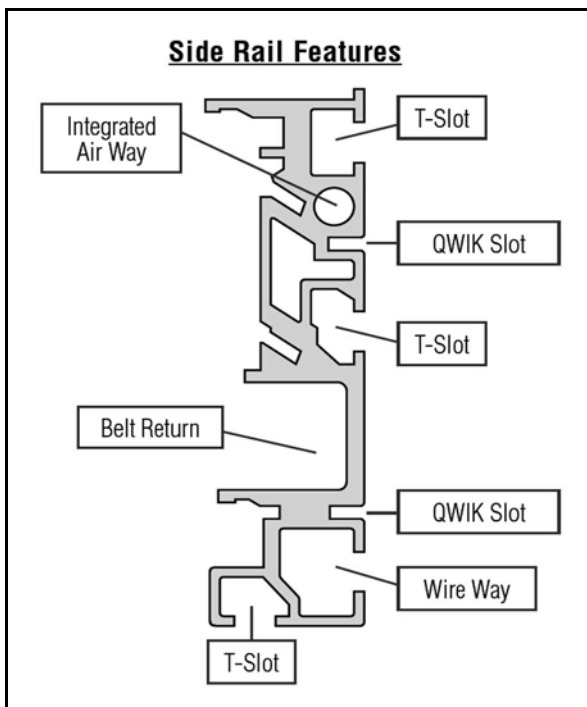

Figure 26
2. Locate the QwikSlot. The Dorner 5200 series conveyor has (2) QwikSlot locations (**Figure 26**).